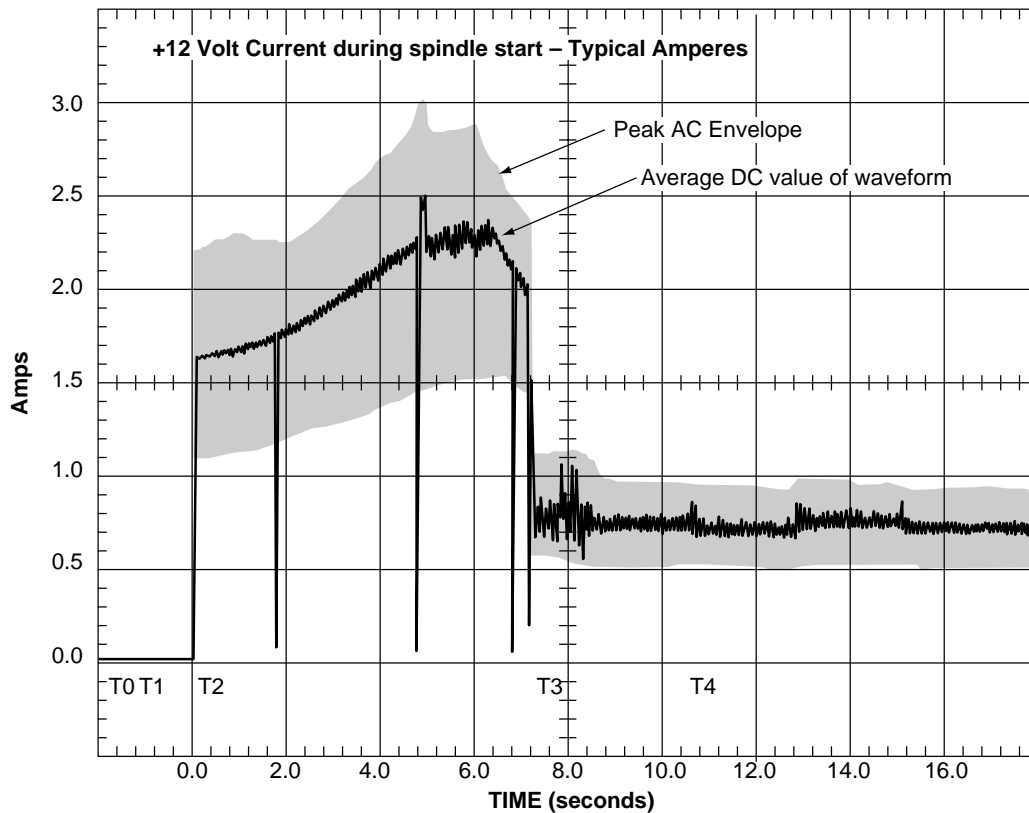
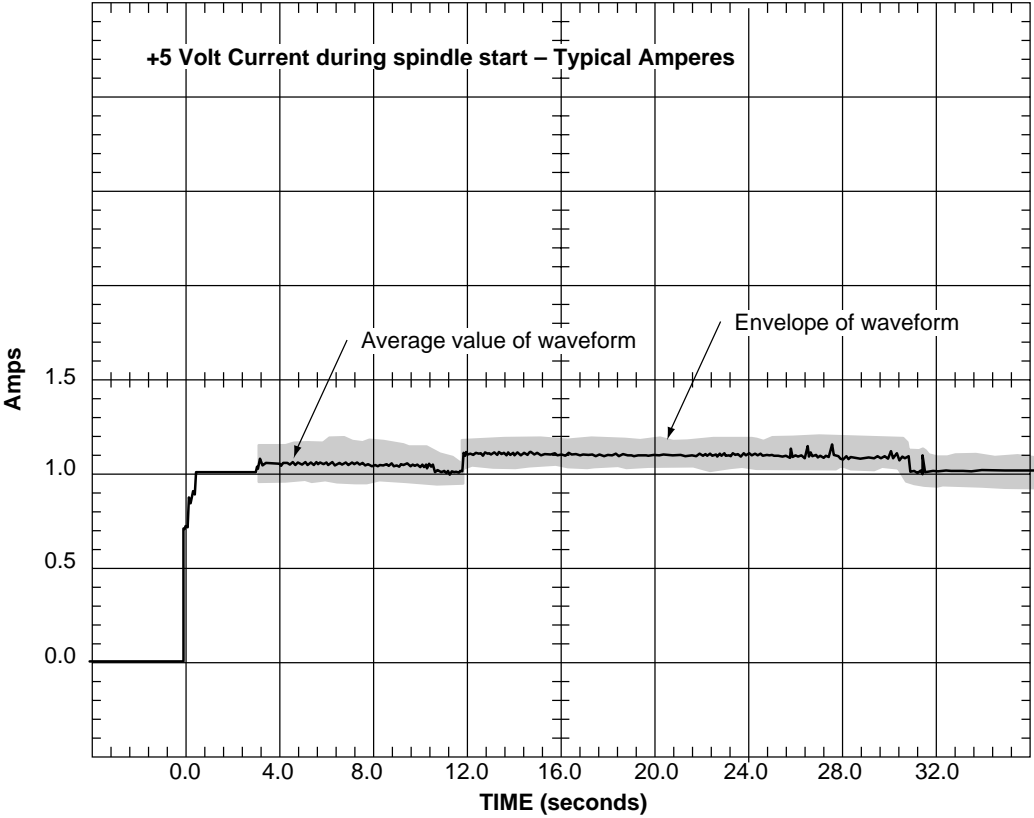

Figure 3. Typical Barracuda 50FC drive +12V current profile
Figure 4. Typical Barracuda 50FC drive +5V current profile
- [3] See +12V current profile in Figure 3.
Figure 3 identifies the drive +12V current profile and Figure 4 identifies the drive +5V current profile. The current during the various times is as shown: